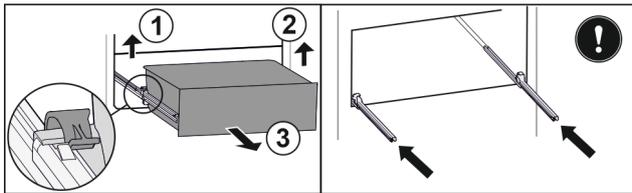

Fig. 48
- Lift left clamp and simultaneously pull drawer forwards on the left. Fig. 48 (1)
- Lift right clamp and simultaneously pull drawer forwards on the right. Fig. 48 (2)
- Remove drawer to the front. Fig. 48 (3)